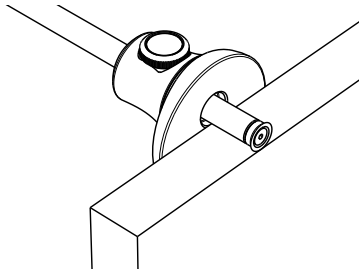

Figure 4: Using a marking gauge to determine the socket depth.
2. Pinch the width of one of the boards between the cutter and fence of a marking gauge to obtain the socket depth of the pins, as shown in **Figure 4**.